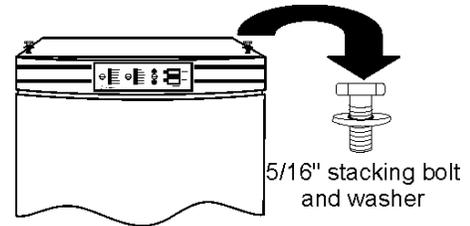

Figure 1-6
3. Remove the two plastic plugs from the bolt holes in the exterior top of the bottom unit. Install the 1/2" long 5/16-18 stacking bolts and washers into the bolt holes - do not tighten the bolts at this time. Refer to Figure 1-6.